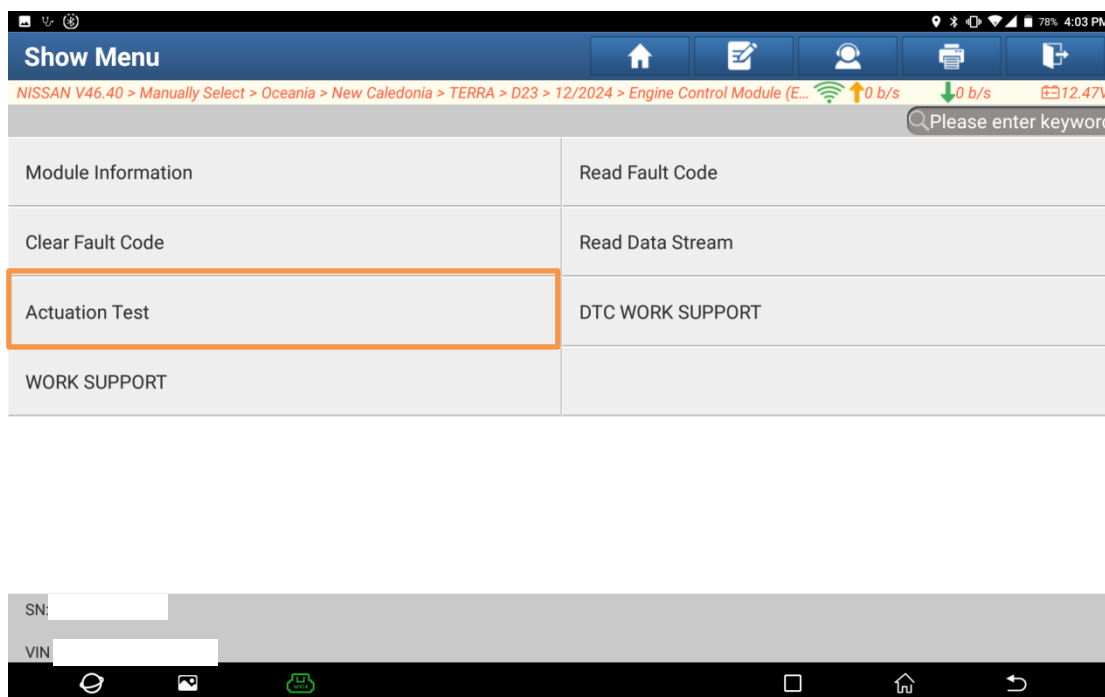

Figure 10
- On the ECM menu interface (Figure 10), choose [Actuation Test] to enter the ECM actuation test menu interface.